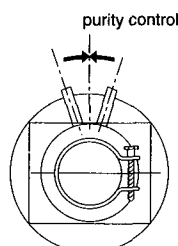

Fig. 2
2. Loosen the deflection yoke mounting screw, and set the purity control to the center as shown in Fig.2